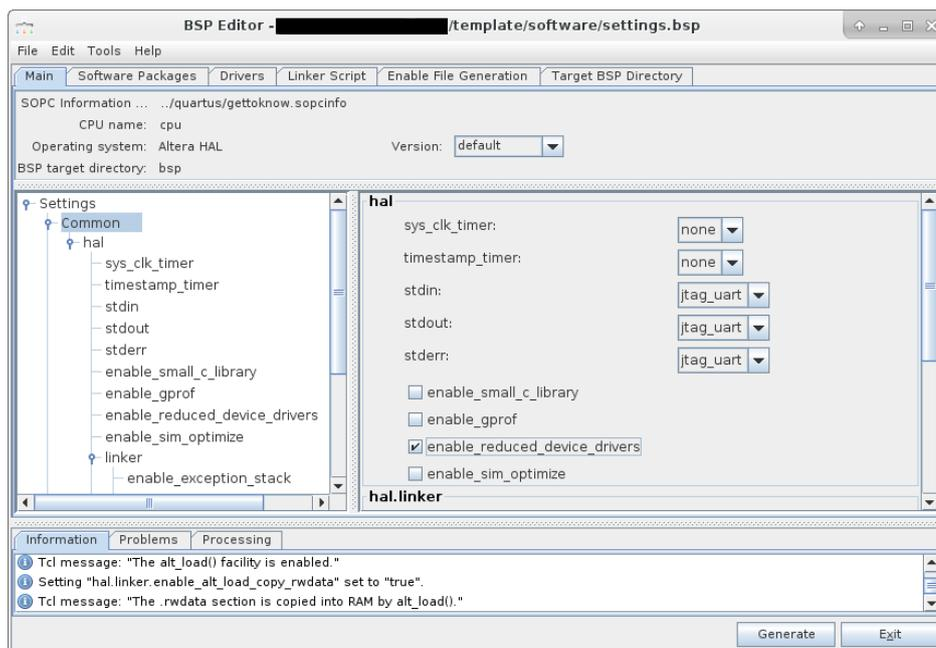

Figure 2.2: Nios II BSP Editor
- Now you can make customizations to the BSP. For this assignment the default settings are sufficient. However, be sure that the *small C library* is NOT enabled, because the software template will not work otherwise. This is also the reason why you need at least 120 kB of `main_memory`. Additionally, select the *reduced device drivers* option (see Figure 2.2). Furthermore, make sure that both `sys_clk_timer` and `timestamp_timer` are set to "none".